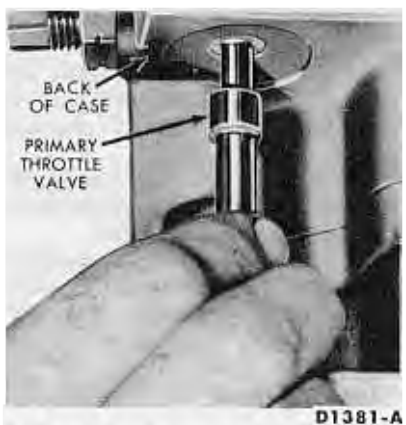

FIG. 31—Removing or Installing Primary Throttle Valve
3. From the vacuum unit hole in the case, remove the primary throttle valve (Fig. 31).
6. Record the dial indicator reading. The end play should be 0.008 to 0.042 inch. If the end play is not within specifications, the selective thrust washer (Fig. 31) must be replaced.
8. If thrust washer No. 2 (Fig. 31) did not come out with the front pump, remove the thrust washer from the forward clutch cylinder. Remove the forward clutch from the